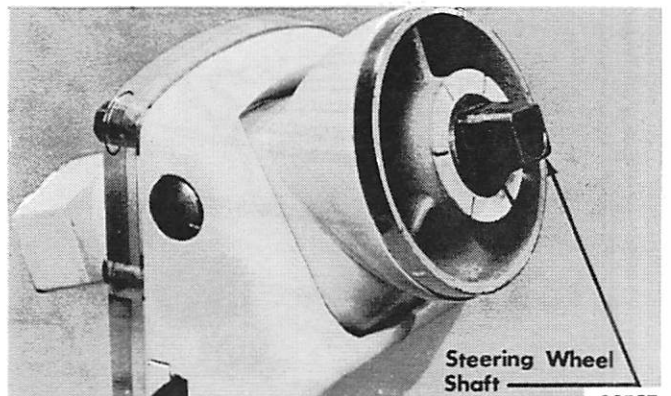

Figure 5. Tilt Mount Steering Wheel Shaft Installed
1. Remove thru bolt (item 4 in Figure 5) from packing position in cable tube (31) and set aside temporarily.
2. Remove neoprene cap (30) from end of cable tube (31).
4. Place New Multipurpose Lubricant (C-92-49588) on cable end and thread cable into cable end tube (32).
6. Secure cable to gear rack (33) by threading 2 locknuts (from plastic bag in steering cable carton) onto threaded end of cable. First nut draws up on cable against rack; second nut is locknut and secures first nut in place.
7. Replace neoprene cap (30) on end of tube (31).